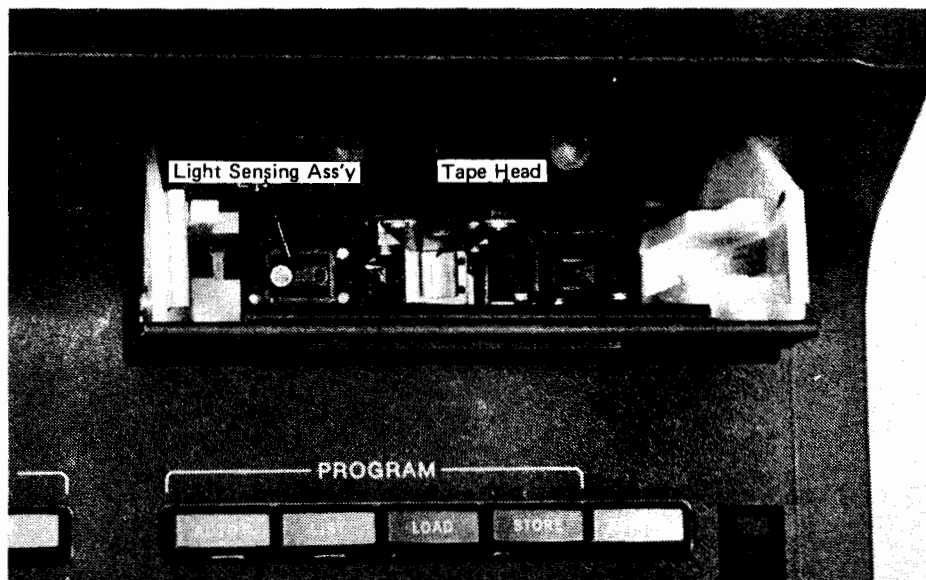

Figure 3-1. The Tape Head and Light Sensing Assembly.
2. Remove any dust or other material that has accumulated in the vicinity of the tape head. (See Figure 3-1).